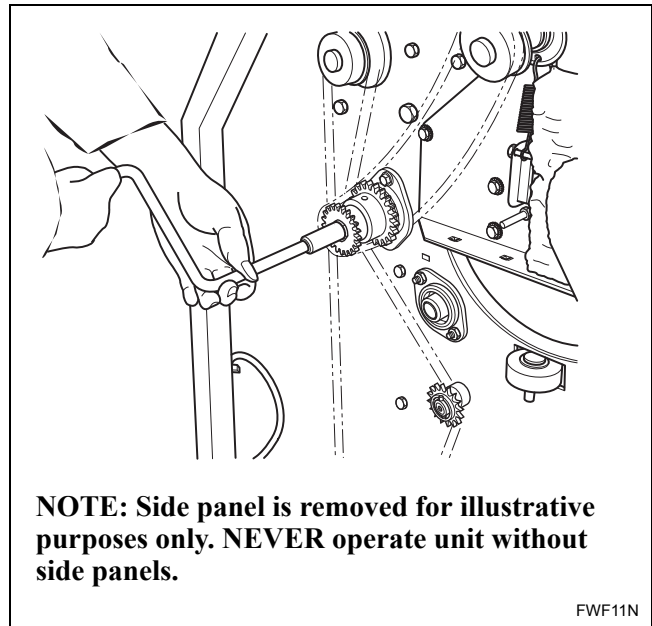

Figure 17
2. Turn the crank clockwise to rotate the cylinder. Refer to *Figure 17*.